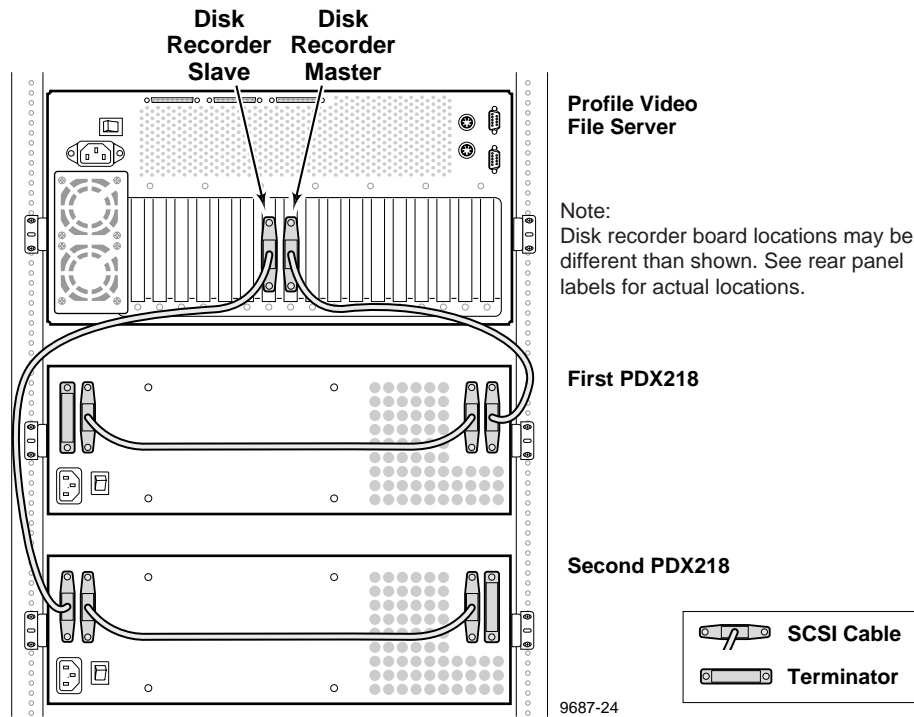

Figure 2-22. Example 2: Connecting two PDX218 Disk Expansion Chassis
Example 2 (Figure 2-22) shows disk expansion of a Profile system equipped with Master and Slave EDR boards. In this example, two PDX218 Disk Expansion chassis are used. One PDX218 provides eight hard disk drives to the SCSI A bus of the Master EDR and the other PDX218 provides eight hard disk drives to the SCSI C bus of the Slave EDR.
**NOTE:** This example requires attachment of SCSI Terminators to the unused SCSI connectors on each PDX 218 as shown in Figure 2-22.